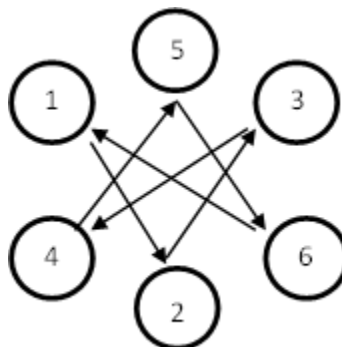
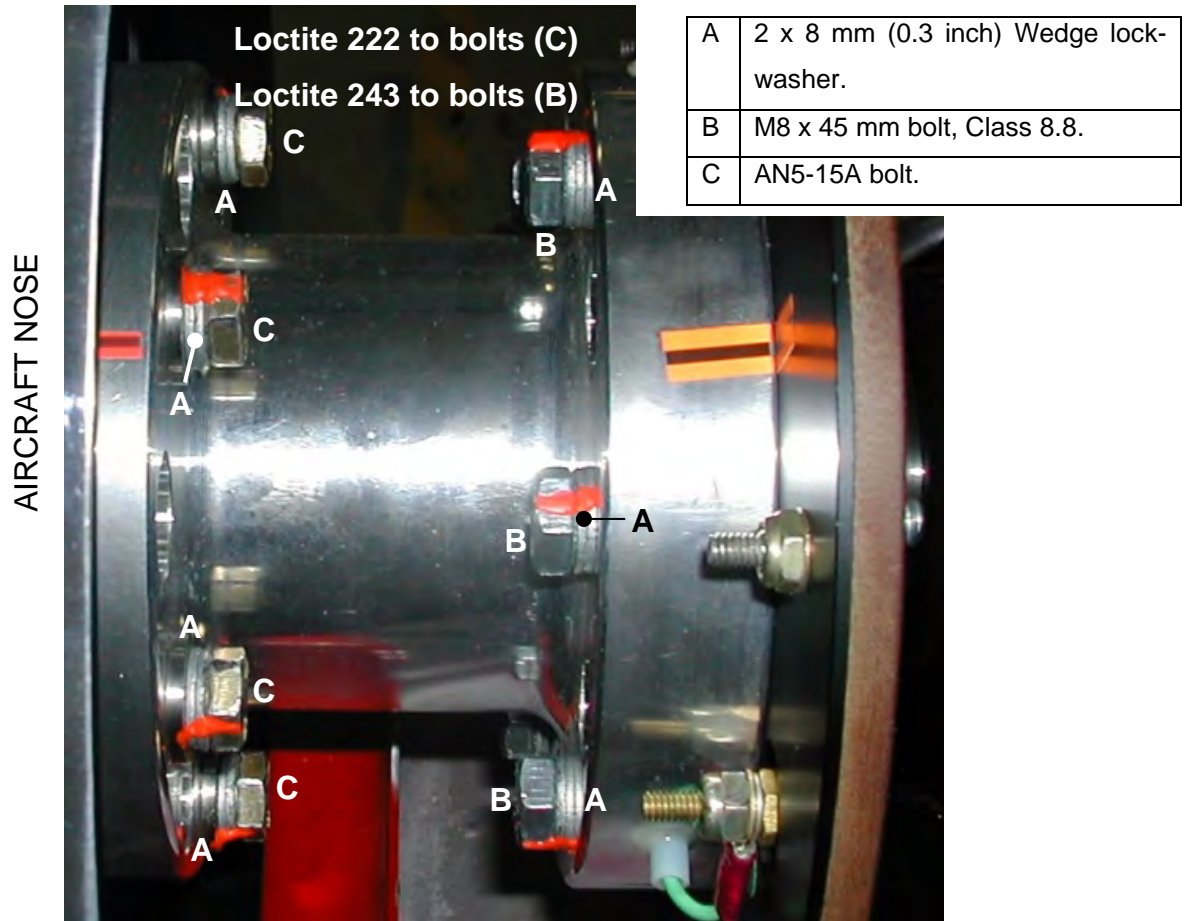

Figure 48: Propeller installation / propeller extension installation torque pattern.
Figure 51: Airmaster propeller installation (with vacuum pump fitted).
Bolts / nuts should be torqued in the following sequence (as indicated in Figure 48) when securing the propeller extension to the engine hub or when securing a propeller to the propeller extension.
- Observe washer placement (refer to Figure 49). Torque the bolts to the correct value (refer to paragraph 1.5.2). Torque in a star pattern / sequence as shown in Figure 48.
- Observe washer placement (refer to Figure 51). Torque the bolts to the correct value (refer to paragraph 1.5.2). Torque in a star pattern / sequence as shown in Figure 48.